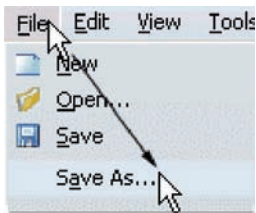

Figure 9.1
1. From the main menu, select **F**ile and then select **S**ave As.... (Figure 9.1)